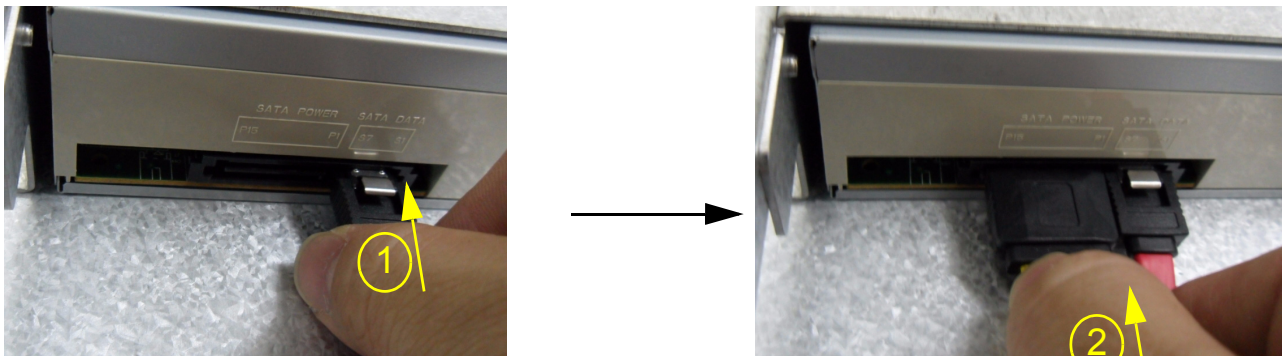

Figure 8-179 Connect DVD CABLE
a.) DVD CABLE - Figure 8-179 on page 8-130.
- a.) DVD CABLE - Figure 8-179 on page 8-130.